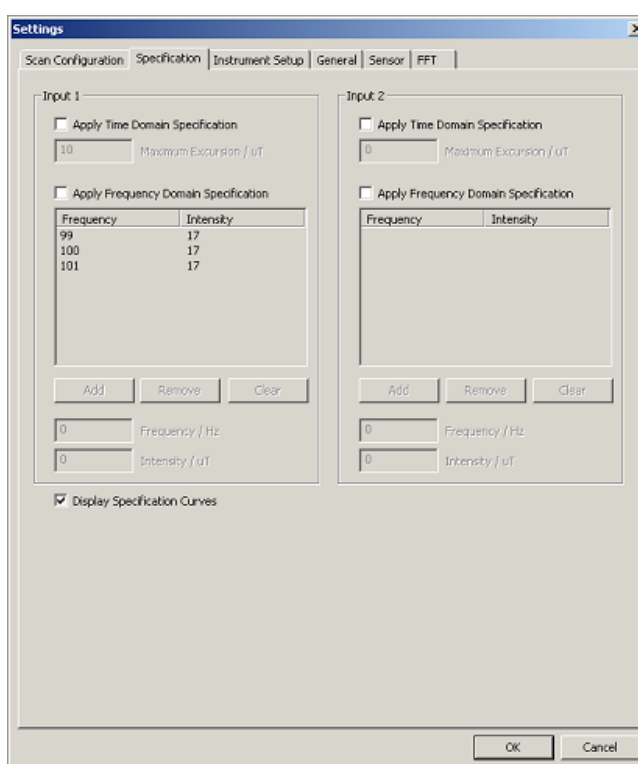

Figure 14b. Process of data acquisition.
(2) The **Specification** sub-menu (**Figure 14b**) lets the user set the peak excursion of the input signal at which a test should fail.
Up to three values should be added very close to the value of interest. For example, to detect a $17\mu\text{T}$ peak at 100Hz, enter three values as shown in **Figure 14b**.